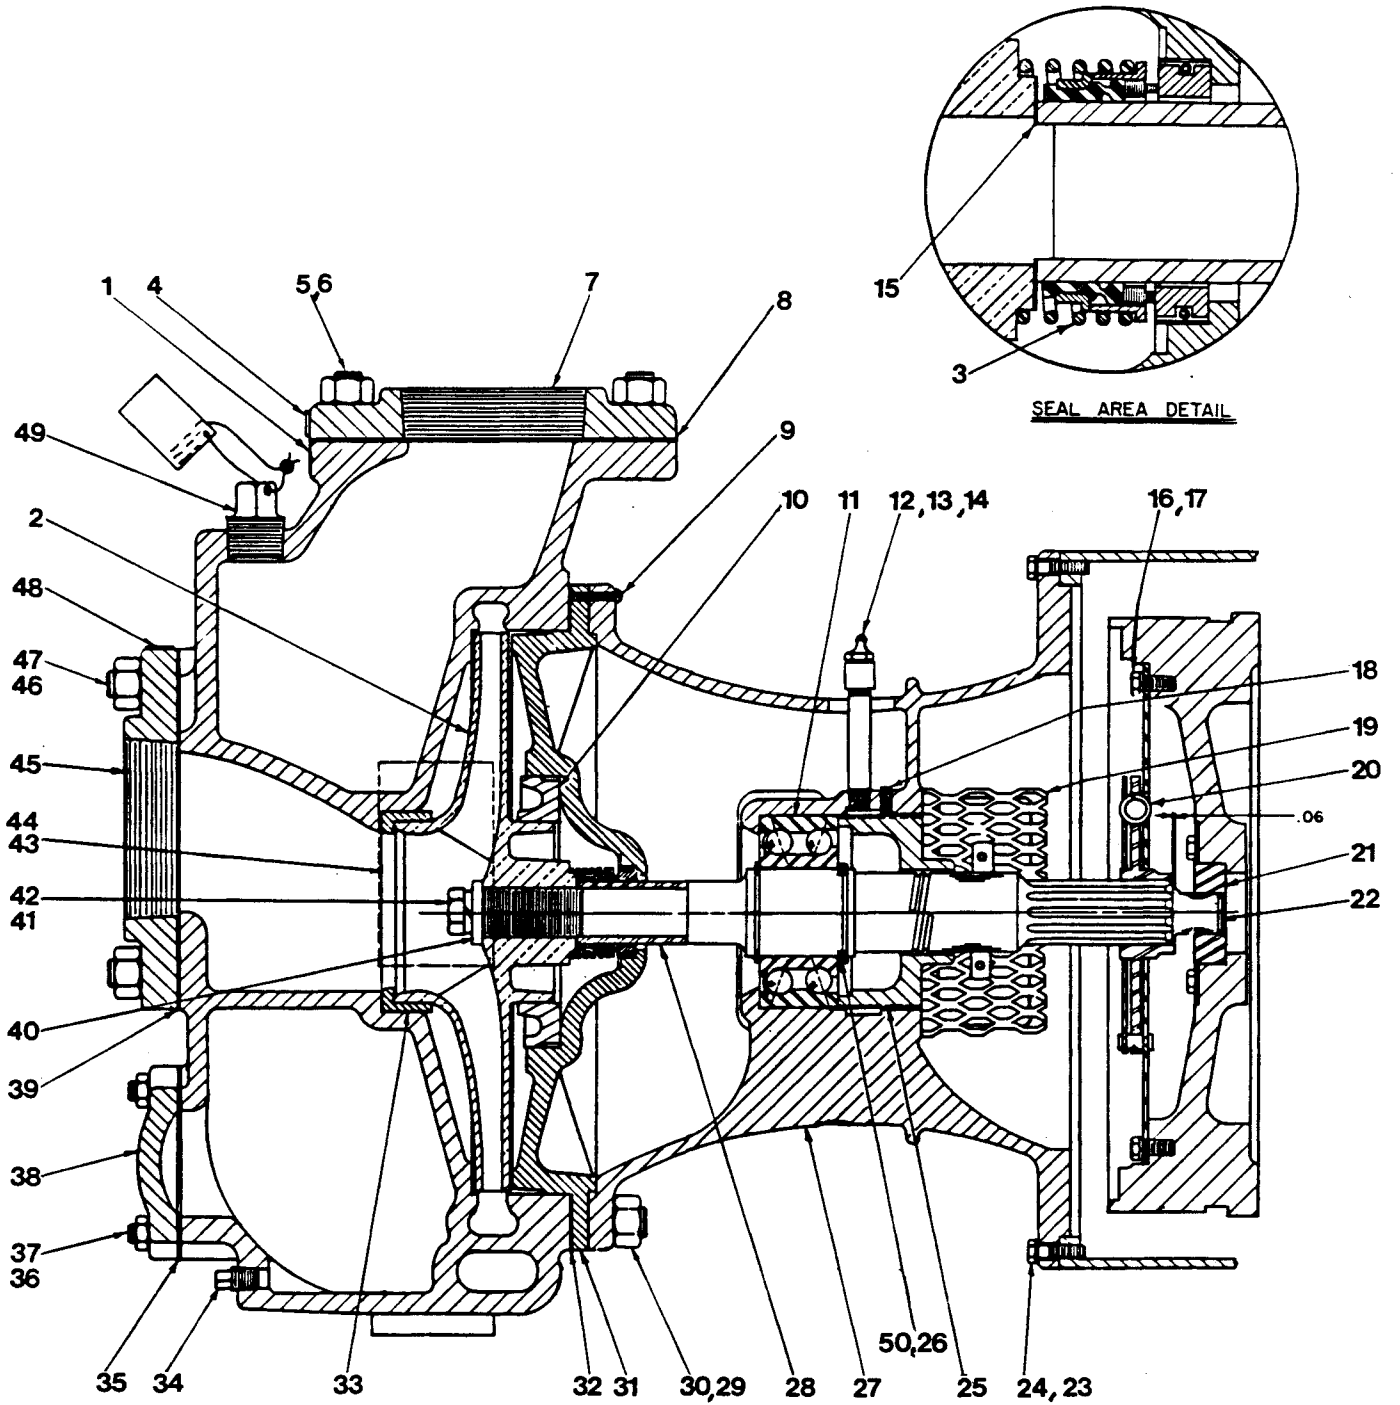

Figure 2. Pump End Assy 04B3-F4L
**(Figure 2)**
#### (Figure 2)
(Figure 2)